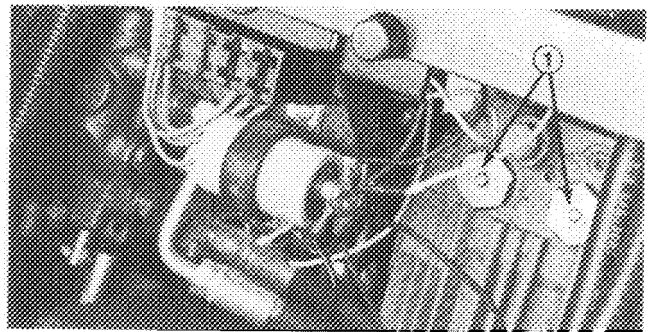
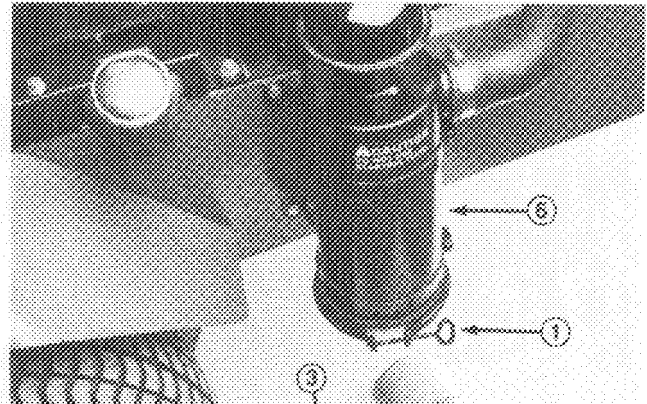
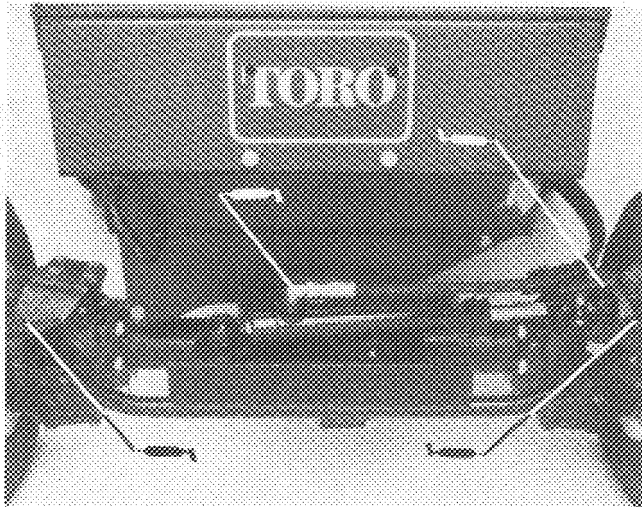
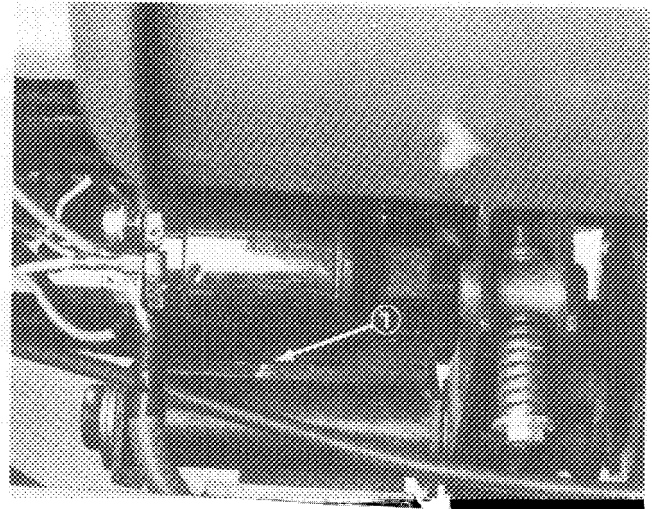

Figure 26
Figure 28
Figure 31
Figure 32
2. Depress and hold the pins located in the center of the two (2) check valve assemblies in the top of the transmission (Fig. 26) while pushing or towing the machine.
Apply a liberal coating of grease to the check valve pins once each year (Fig. 26). Also grease the bearings in the Dana axle every 500 hours, or yearly, whichever comes first (not shown). The traction unit has bearings and bushings that must be lubricated, and these lubrication points are: PTO universal shaft (Fig. 27); lift arm pivot bushings (Fig. 28); brake pivot bushings (Fig. 29); clutch housing and drive shaft (Fig. 30); tie rod and cylinder rod ends (Fig. 31); PTO tension pivot (Fig. 32). Also apply grease to both brake cables at the drive wheel and brake pedal ends (Fig. 29).